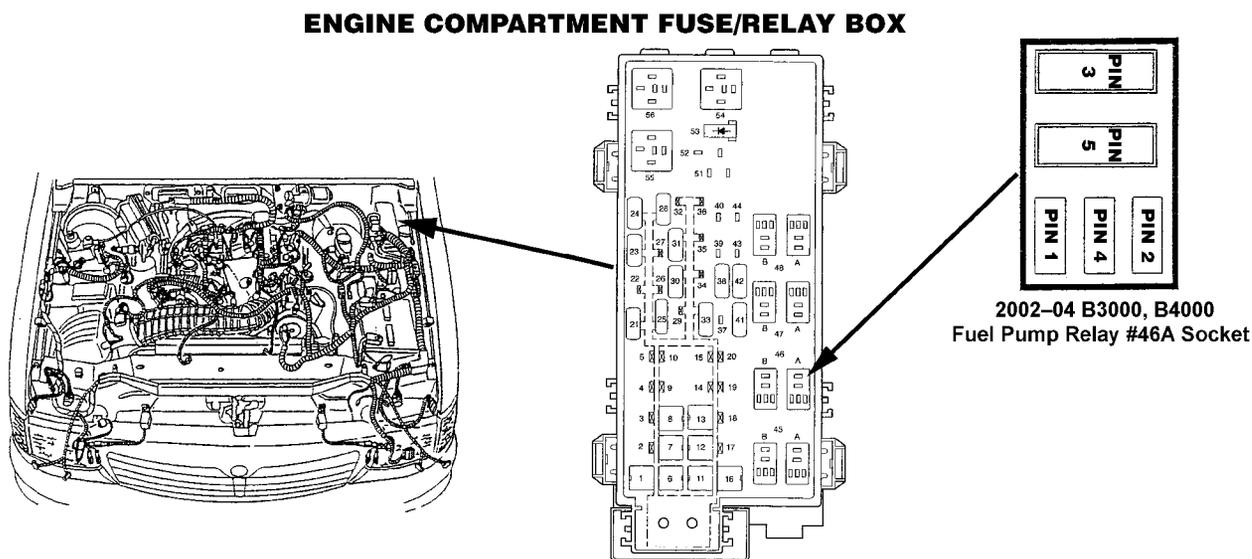

Figure MA014-10
3. Locate engine compartment fuse/relay box at left rear corner of the engine compartment near the driver side hood hinge. Refer to the fuse and relay box diagram (Figure MA014-10).